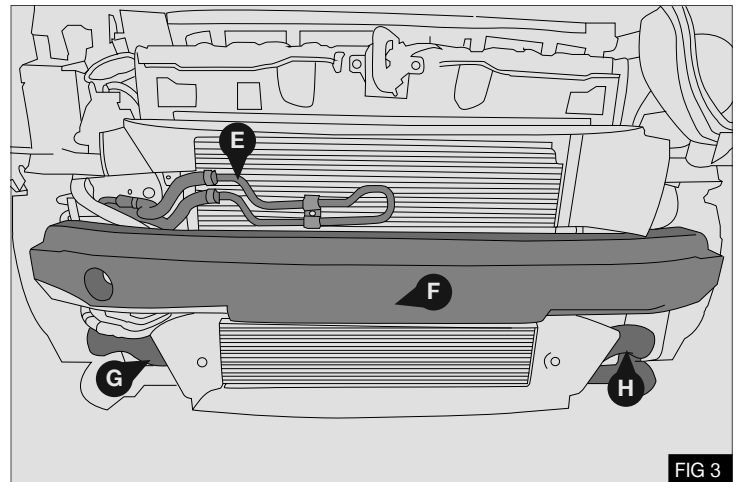

FIG 3
5. Remove bolt securing the oil cooler (E), and nut securing oil cooler pipes (E), Disconnect wiring harness supports, Remove the crash member (F) - Figs 3,4
6. Disconnect intercooler hoses (G) and (H) remove 3 x fasteners securing intercooler pipes to chassis. Fig 3